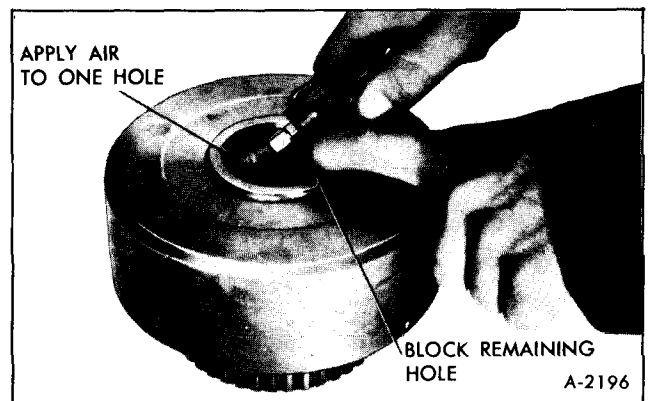

Figure 79-Air Check Forward Clutch Piston
11. Air check forward clutch and piston operation, Figure 79.